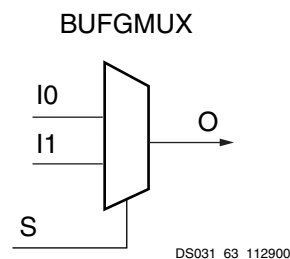

Figure 42: Virtex-II BUFGMUX Function
The two clock inputs can be connected to any synchronous or asynchronous clock (from a clock pad or DCM clock output). When the select input (S) is Low, the clock connected to the I_0 input is distributed, as shown in Figure 42. Setting S High, causes the clock connected to the I_1 input to be distributed.